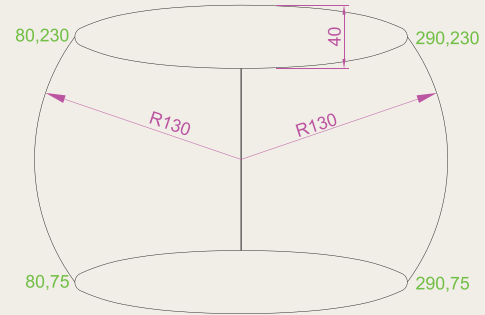

Fig. 3.47 Exercise 3
- Using the **Ellipse** and **Arc** tools construct the drawing shown in Fig. 3.47.